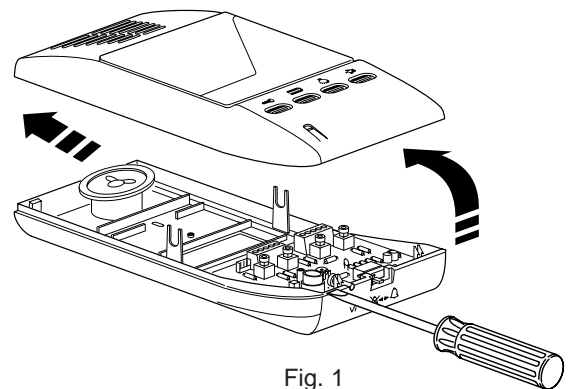

Fig. 1
- Fig. 1 - Separate the base of the interphone from the cover by inserting a wide-blade screw-driver in slots till opening (see drawing).
Fig. 1 e 3